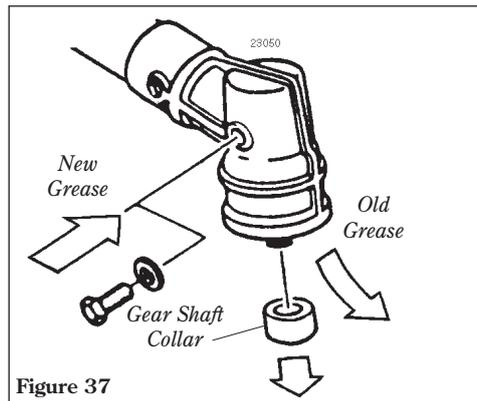

Figure 37
- Remove the cutting attachment, holder and the gear shaft collar. Remove the filler plug from the side of the gearcase and press new grease into the gearcase until the old grease has been pushed out. Use only lithium-base grease such as Shindaiwa Gearcase Lubricant or equivalent. See Figure 37.